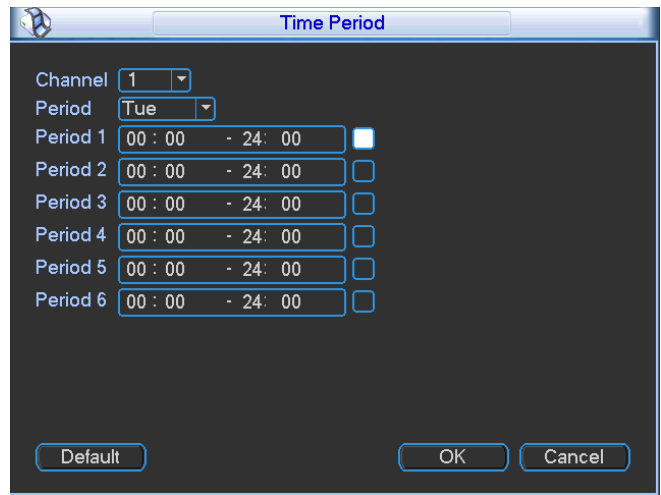

Figure 4-43
- ◇ Schedule: Click it; you can see an interface shown as in Figure 4-43. Here you can set snapshoot period.